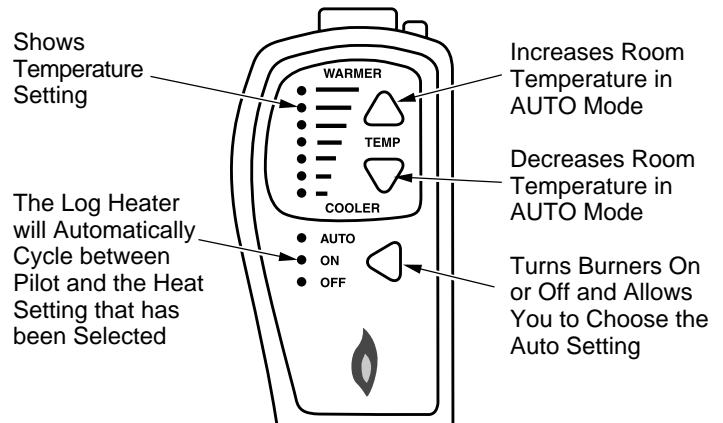

Figure 57 - Hand-Held Thermostat Remote Control Unit Selections (CGHRCTA Only)
- 2b. Press the AUTO/ON/OFF button on the hand-held remote control (see Figure 57). The lights to the left of the button will show AUTO, ON, or OFF.